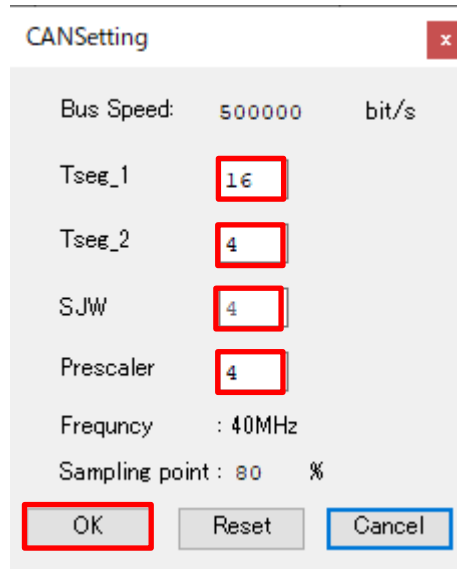

Figure 1.
1. Enter each values in the red box in Figure 1.
2. Pressing OK button in Figure 1 will reflect the values on the main screen.
- Figure 1 Reset button: Resets the value to the value before editing.